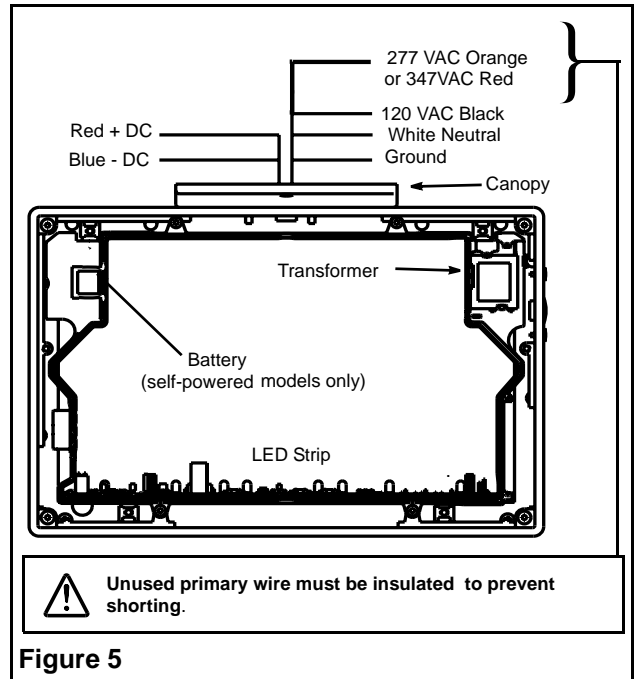

Figure 5
- c. Feed the AC supply leads out through the center hole and make the proper connections (See step 5 and Fig.5).
- c. Feed AC supply leads through hole and make the proper connection (See step 5 and Fig.5)
Refer to Fig. 5 for AC & DC wiring.